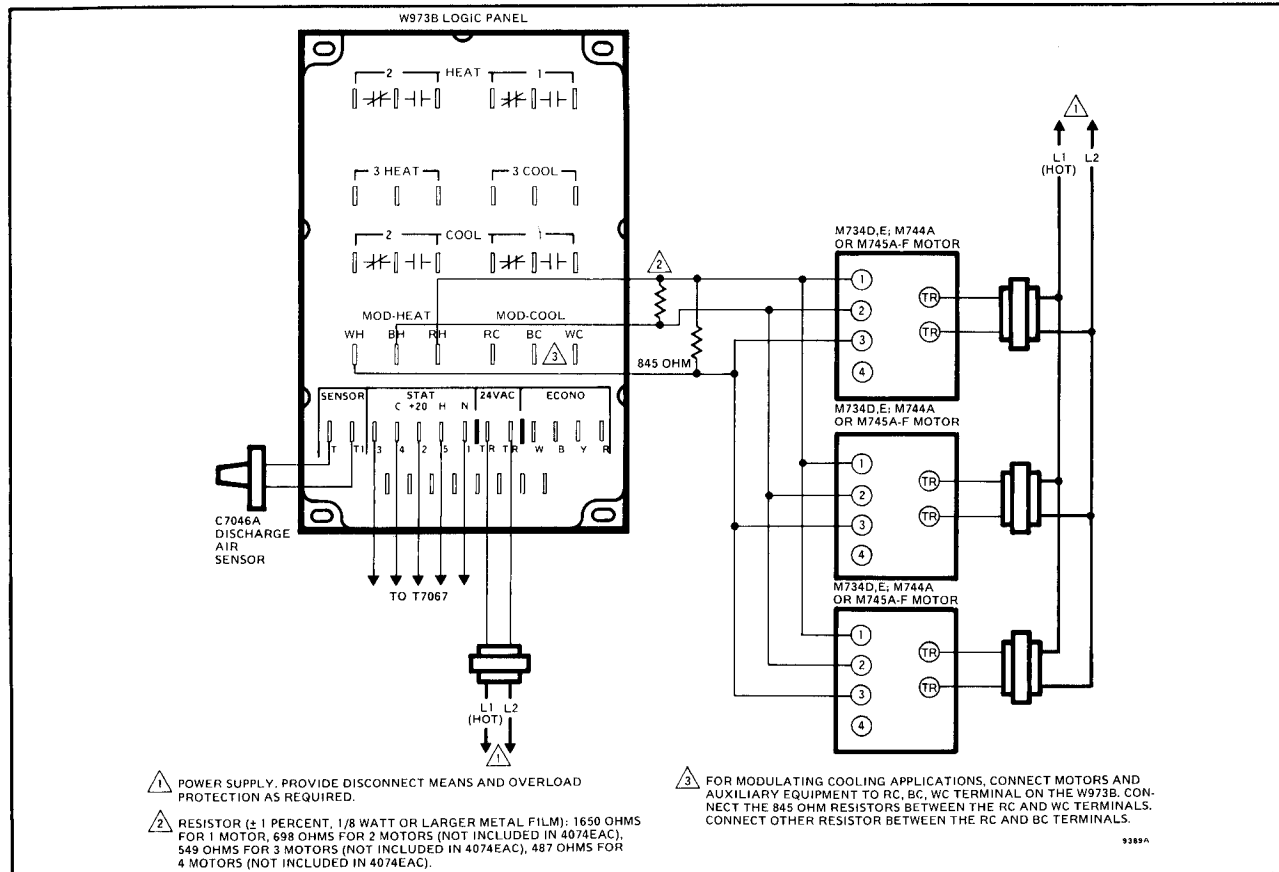
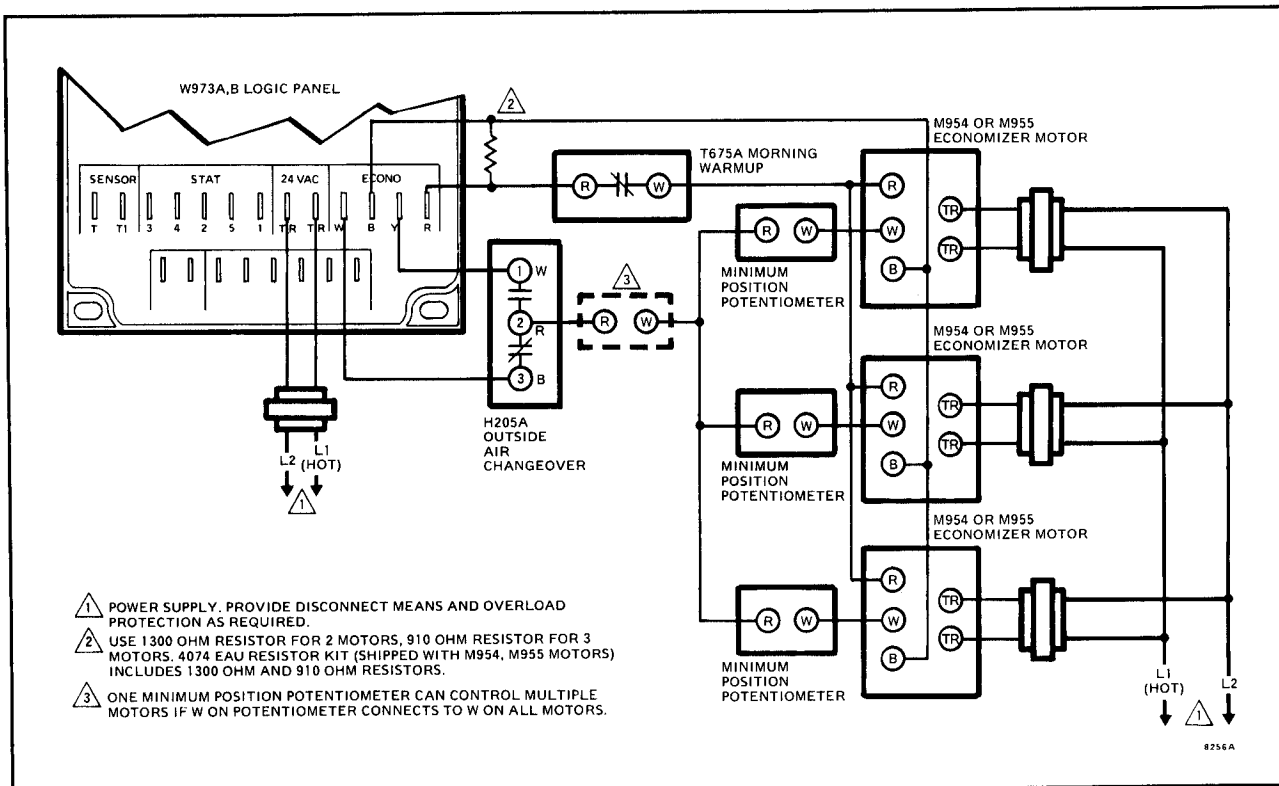

FIG. 6—W973B LOGIC PANEL WITH MULTIPLE M734, M744 OR M745 MOTORS FOR MOD-HEAT OR MOD-COOL.
FIG. 8—W973 LOGIC PANEL WITH MULTIPLE M954 OR M955 ECONOMIZER MOTORS.
Up to 3 Modutrol motors, or economizers—with solid state balance relays—can be connected to operate in unison. Wire the motors and add resistors as shown in Figs. 6,7. Wire economizers as shown in Fig. 8.
4. When the system returns to the occupied cycle, the economizer remains closed until space temperature approaches the heating set point if the T675A Morning Warmup Thermostat is connected as shown in Fig. 8 or 11.